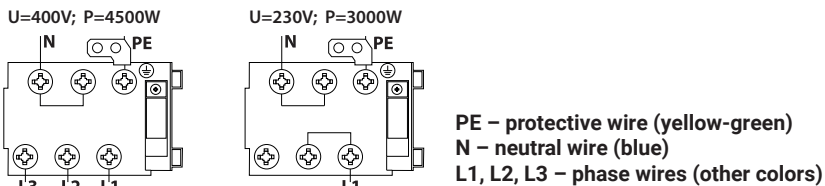

Fig. 2 - Label with connecting diagram
- Manual devices that are designed for connection of the power supply to the terminal box, can be connected in two ways in accordance with the diagram placed on the label (fig. 2) located on the back of the device. A standard connection is made for a 400V power supply. The type of the cord is given in table in point 3.